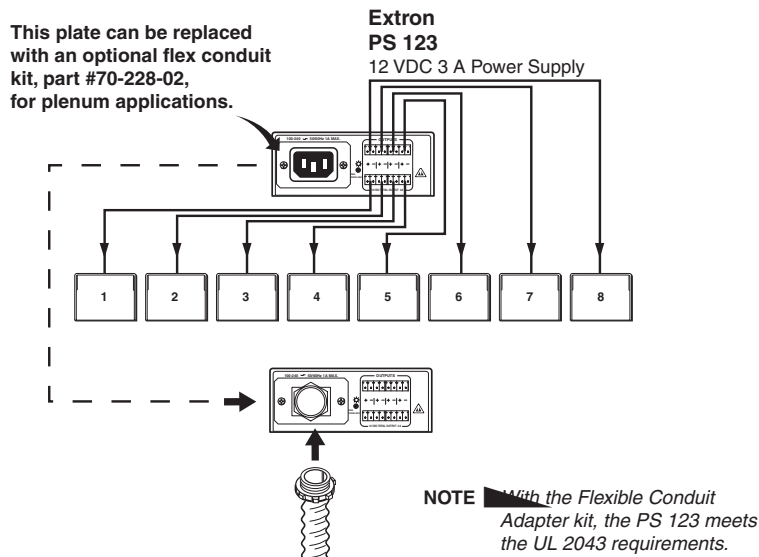

Figure 2 — Using the conduit option for the PS 123
- ② **IEC connector/power supply** — Plug the external IEC cord into this connector and a 100–240 VDC source.
- ③ **Optional conduit EMT adapter plate** — The IEC connector and EMT plate can be replaced by this half-inch conduit EMT adapter plate, as shown in figure 2. See “Input power — using the Flexible Conduit Adapter Kit,” on the next page.